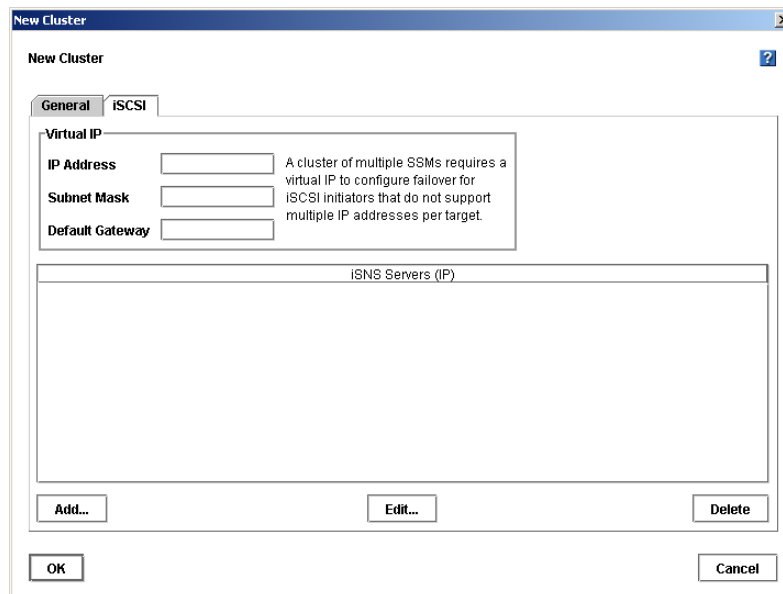

Figure 158. Configuring a Virtual IP Address for iSCSI
1. Click the iSCSI tab to bring it to the front, shown in Figure 158.